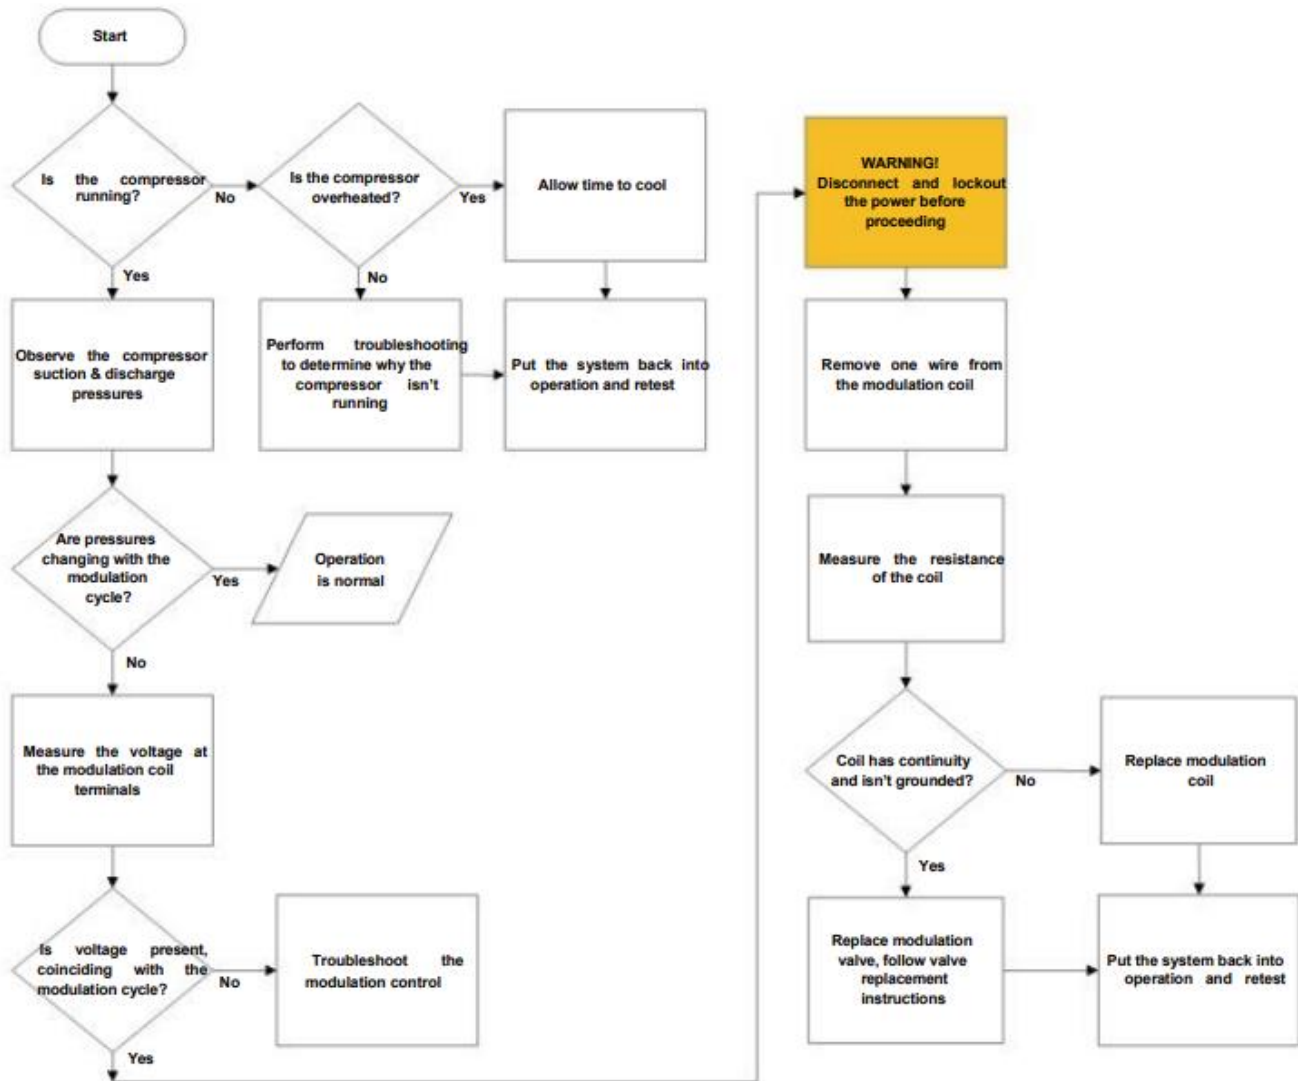

Figure 8
**Figure 8** is a troubleshooting flow chart to help with simple modulation problems. For more information on troubleshooting the Copeland™ Digital Compressor Controller please refer to **AE8-1328**. For more information on troubleshooting the Commercial Comfort Controller please refer to **AE8-1393**.